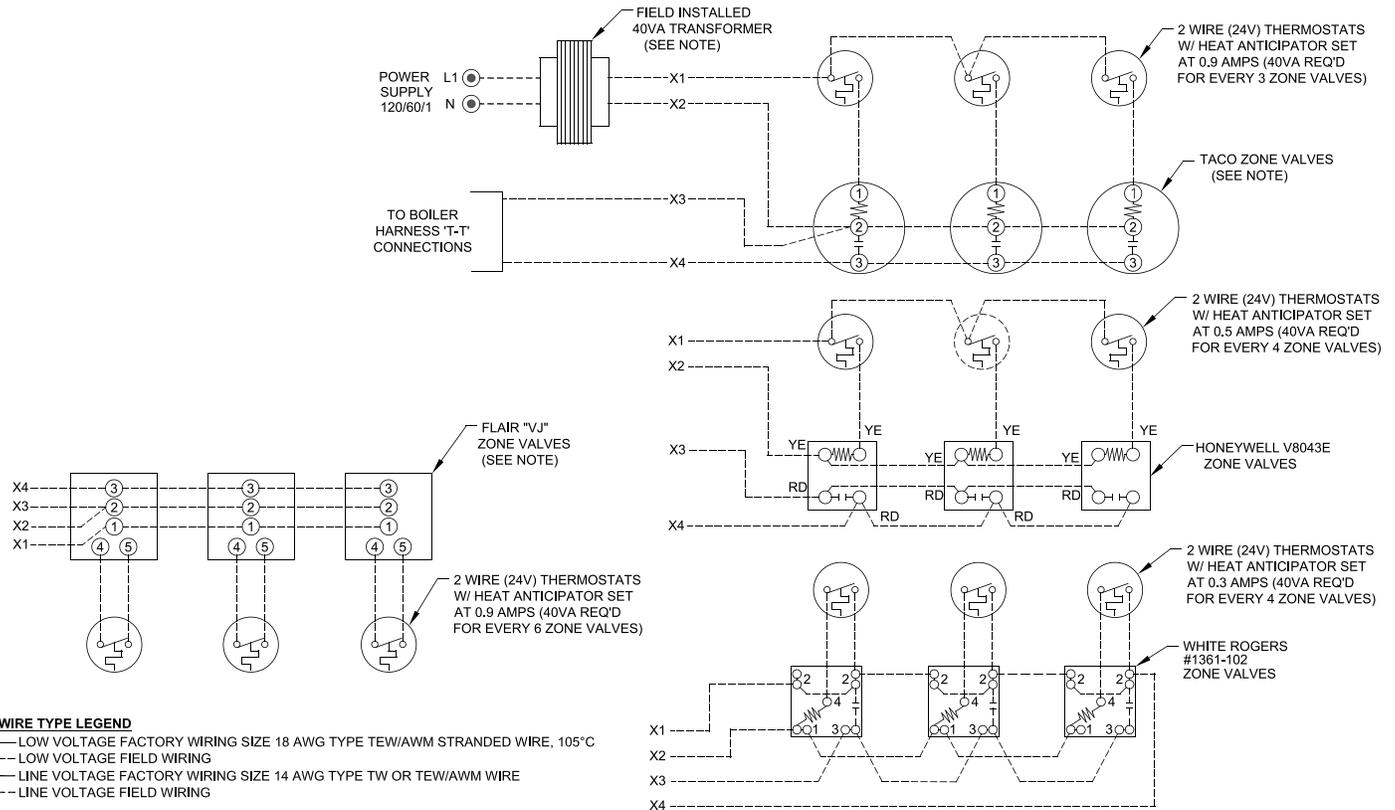

Figure 11: Wiring Schematic, Zone Valves
- D. For installations using zone valves** provide separate transformer for zone valve wiring. Consult zone valve manufacturer for assistance. See Figure 11.